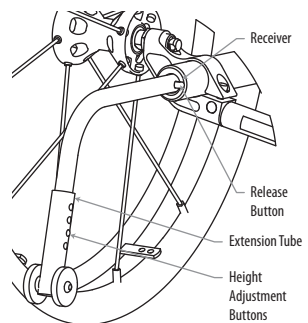

Figure 19.16 Height adjustable anti-tip tubes in the downward position.
- 1 Press and hold the release button on the anti-tip tube. (See Figure 19.16)